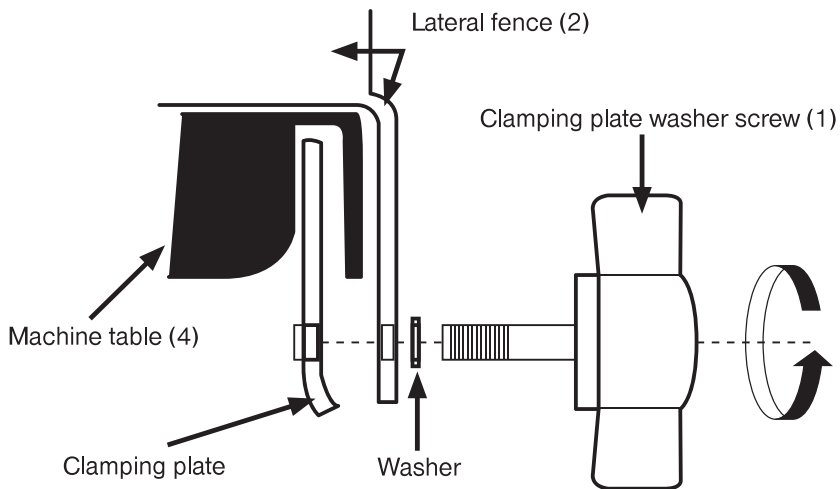

Fig. 10
Mount the lateral fence (2) as shown in Figure 10, on the side of the cutting disc which is suitable for your task. Please note that the internal clamping plates must be attached exactly as shown. (Watch out for bending).